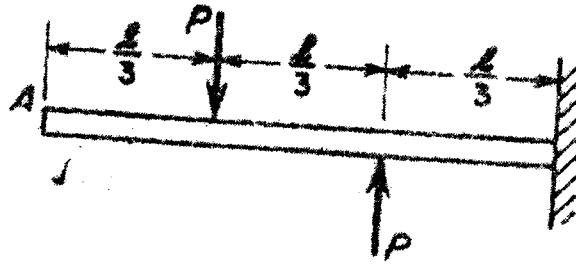

Fig. 7b
b) A cantilever beam of length  $l$  carries two forces  $P$  at its third-points as shown in Fig. 7b. Using the moment area method, find the deflection  $\delta_A$  at the free end  $A$ . The flexural rigidity of the beam is uniform throughout its length.